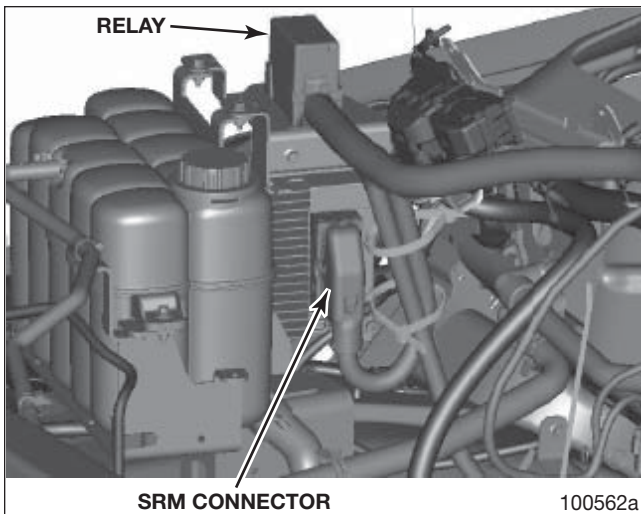

Figure 97 – Disconnect Main Harness Connector
6. Connect the main harness connector to the SRM. Figure 97.